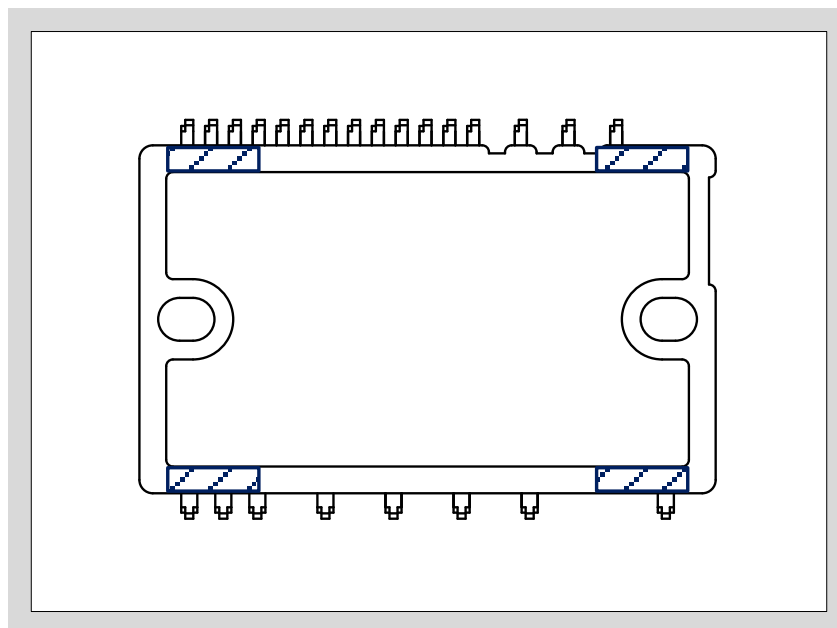

図4-1 スペーサの設置位置
- When using spacer between the PCB and the product for alignment during soldering to printed circuit board, it is recommended to support the product at the hatched area as shown in Fig. 4-1.